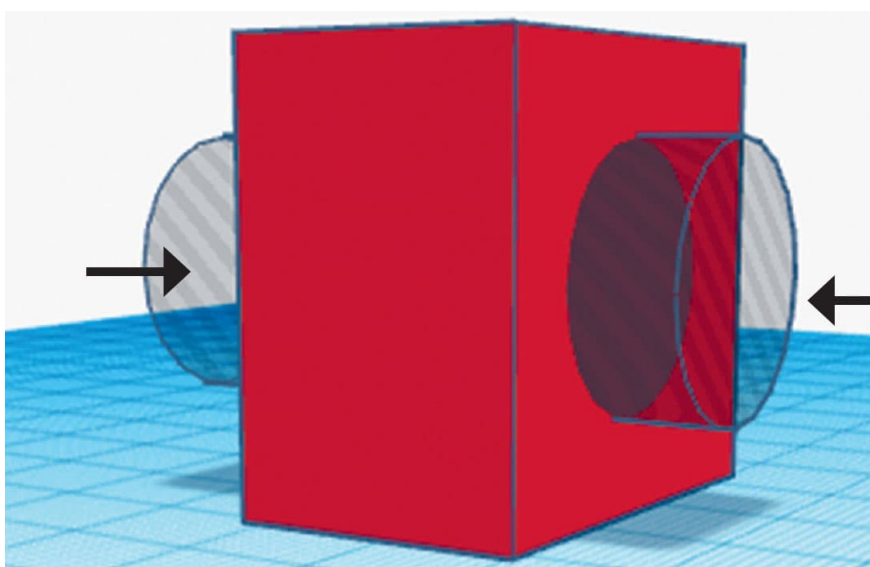

FIG. 3: Position the cylindrical hole so it passes through the center of the cube.
4. Now, move the cylindrical hole so it passes through the center of the side of the cube (fig. 3).